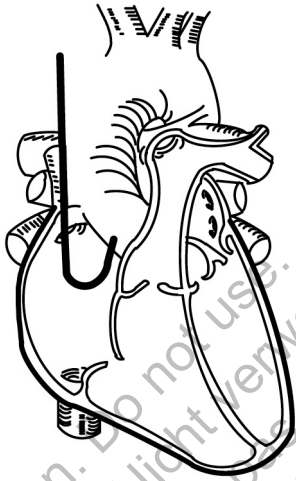

Figure 8. Atrial placement
4. Gently pull the lead/stylet combination at the venous entry site to ensure contact between the lead tip and the endocardium. A satisfactory position has the lead tip situated against the endocardium in the atrium (Figure 8 Atrial placement on page 19).